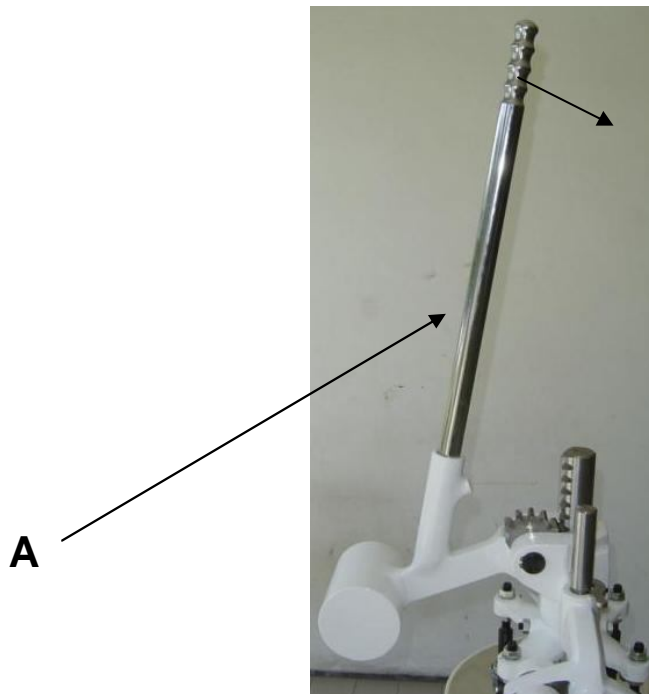
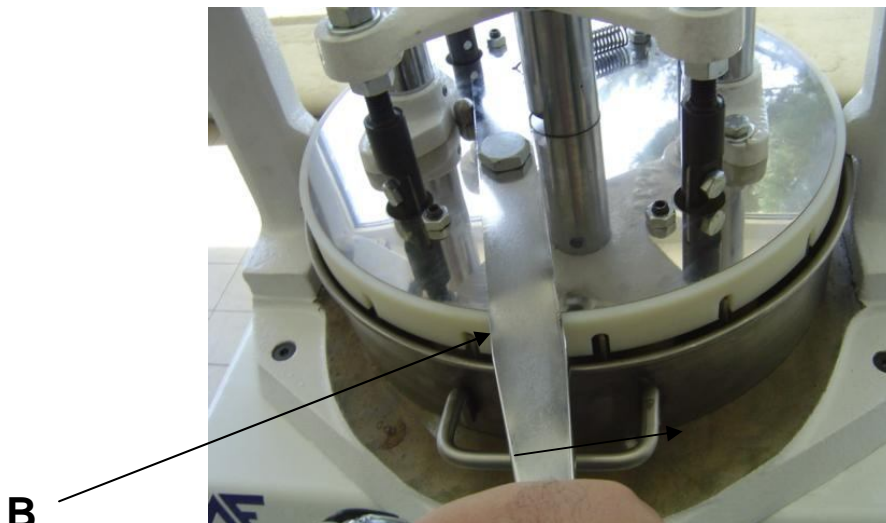

Figure 8
Figure 9
- Push the lever A down in figure 8, with the right hand and press strongly on the dough to flatten it even more (figure 8).
- Without letting go of lever A, with your left hand push right to lever B in figure 9, which has the function of releasing the star blade. Press lever A again to lower the star some (figure 9).
- Unlock the lever B in figure 9 and push lever A in figure 8, to take out the pressing cutting blade and proceed to it's cleaning.